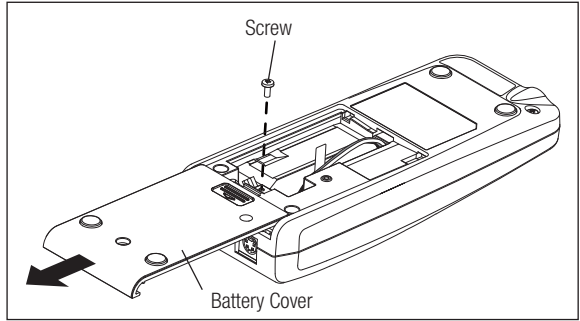

Fig. 6
- 3) Remove the battery cover by sliding it in the direction of the arrow. (Fig. 6)